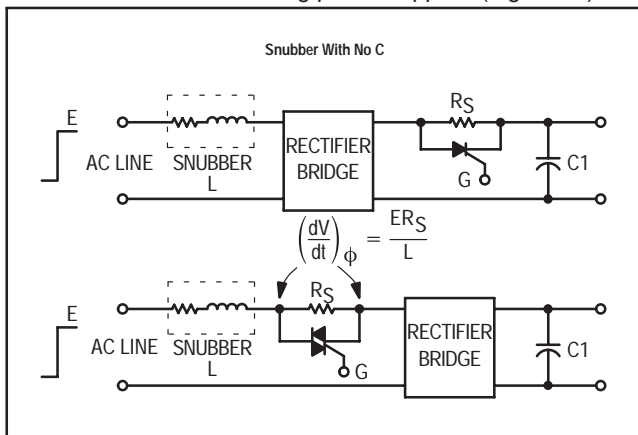

Figure 25. Surge Current Limiting For a Switching Power Supply
2. The snubber works because the inductor controls the rate of current change through the resistor and the rate of capacitor charging. Snubber design cannot ignore the inductance. This approach suggests that the snubber capacitance is not important but that is only true for this hypothetical condition. The snubber resistor shunts the thyristor causing unacceptable leakage when the capacitor is not present. If the power loss is tolerable, $\frac{dV}{dt}$ can be controlled without the capacitor. An example is the soft-start circuit used to limit inrush current in switching power supplies (Figure 25).